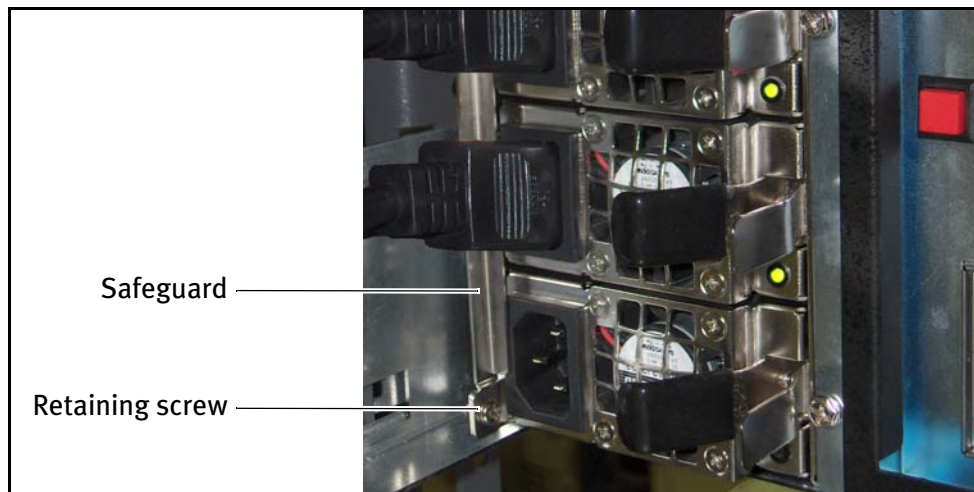

Figure 2 Remove the safeguard retainer bar screw.
3. Using a #2 Phillips screwdriver, remove the screw securing the retainer bar (see Figure 2) to the safeguard bracket. Remove the retainer bar from the bracket and set it aside.